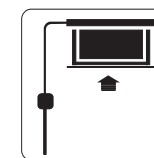

Figure 21
3. Turn the switch to position "-" to lower the screen; it will go up into the metal casing. When it is all the way up, it will stop automatically (Figure 21).